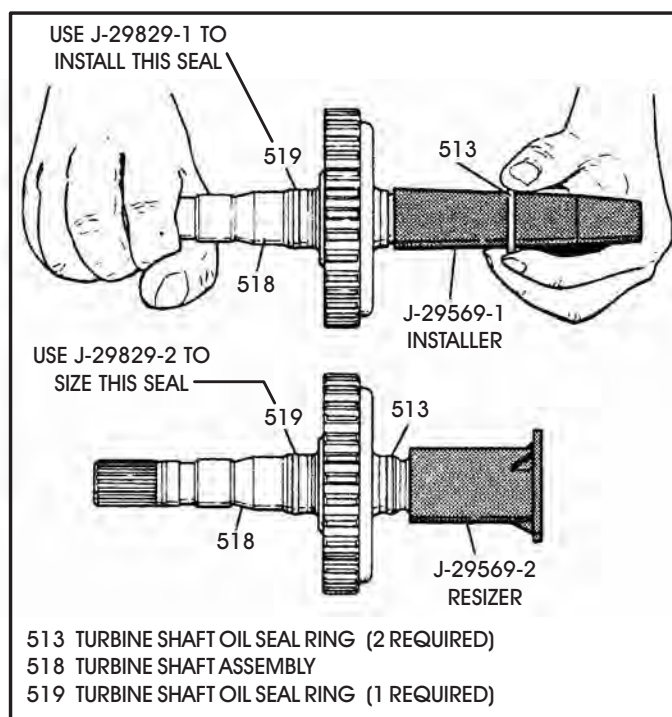

Figure 131
2. Place J-29569-1 installer over the turbine shaft as shown in Figure 131, and coat with a small amount of Trans-Jel®.
3. Slide new turbine shaft seal over the installer and into position, as shown in Figure 131.
5. Place seal resizer J-29569-2 over the installed oil seal rings, as shown in Figure 131 and leave in place.
6. Place J-29829-1 installer over the opposite side of the turbine shaft (See Figure 131).
8. Place seal resizer J-29829-2 over the installed oil seal rings and leave in place (Figure 131).